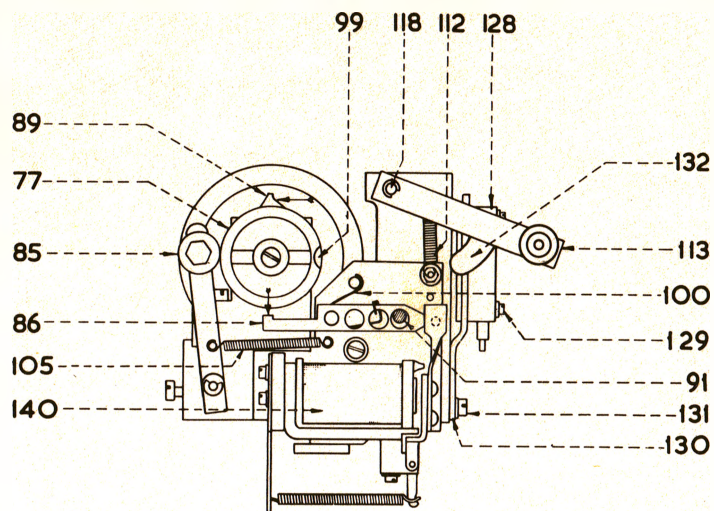

FIG. 8
- 27.2 If this is not so, and no mechanical defect exists, change spring (98).
28. Clutch detent, Fig. 8
31. Tape arm, Figs. 8 and 15
- 31.4 If this is not so, and no mechanical defect exists, change the spring (112), Fig. 8.